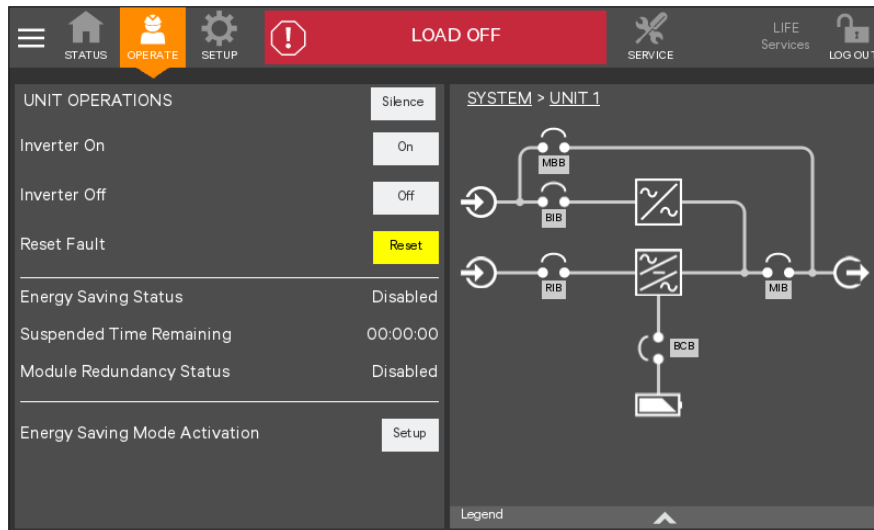

Figure 5-3 Clicking On key
4. When the rectifier start process is finished, close the battery circuit breaker, and the system will run in Bypass mode (Power flow shown in Figure 5-3). Click the **On** key (Refer to Section 4.3.3).